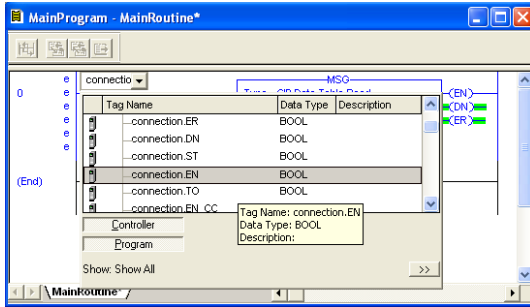

Figure 57: Configure XIO Element
- a) Double-click on the XIO element located to the left of the MSG block. In the drop-down box, double-click on the “connection.EN” field. Refer to Figure 57. This configuration causes the MSG instruction to automatically retrigger itself when it completes. While this is acceptable for the purposes of this example, it can produce high network utilization. In actual practice, it may be desirable to incorporate additional logic elements to allow triggering the MSG instruction at a specific rate or under specific conditions.